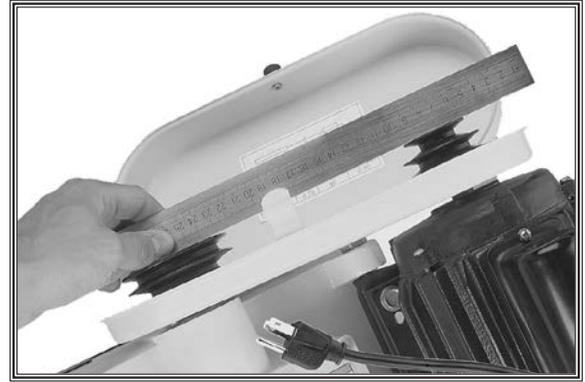

Figure 13. Checking the pulley alignment.
15. Use a straightedge to check alignment of the pulley wheels, as shown in **Figure 13**, and adjust them as needed.